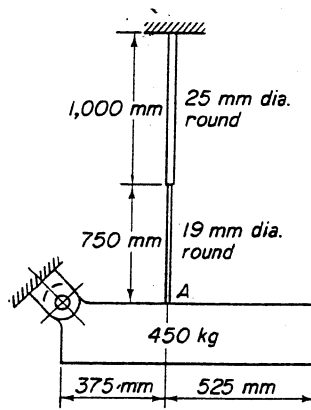

Figure 1-44 Problem 4.
4. The bottom member in Fig. 1-44 is of uniform cross section. Its hinge is frictionless. The rods are of steel. Find the distance point A drops upon attachment of the weight. Ans. $\delta = 0.12$ mm.